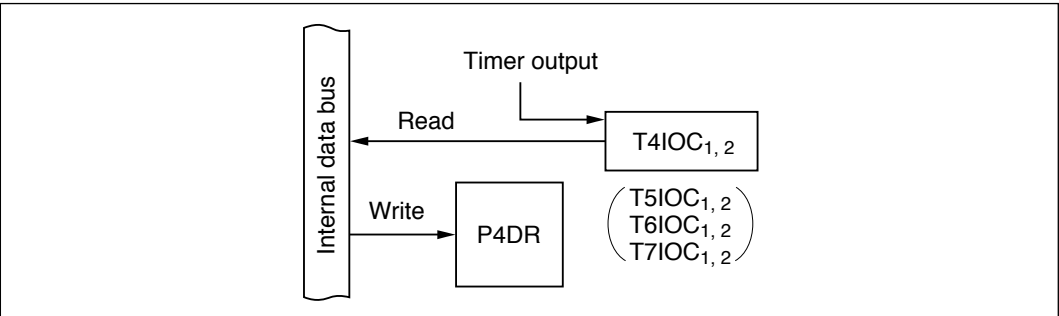

Figure 9-24 Output Compare Pins (Modes 1 to 7)
(3) Timer Output Pins (Modes 1 to 7): Figure 9-24 shows a block diagram illustrating the output compare function. Table 9-17 indicates register read/write data. When a pin in port 4 is used for output compare, the value in the port 4 data register (P4DR) has no effect on the timer output. P4DR can be read to monitor the timer output level (T4IOC₁, T4IOC₂, T5IOC₁, T5IOC₂, T6IOC₁, T6IOC₂, T7IOC₁, T7IOC₂).